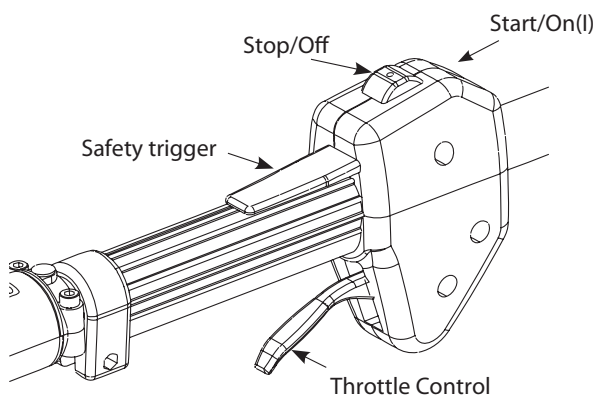

Fig. 13
2. Turn switch to ON position (Fig. 13).
4. With the unit in the starting position, do not squeeze the throttle control (Fig. 13). Then pull the rope smoothly and briskly. The engine should start. Engine should start with 3-5 pulls. Once warm, the engine should start on the first pull.